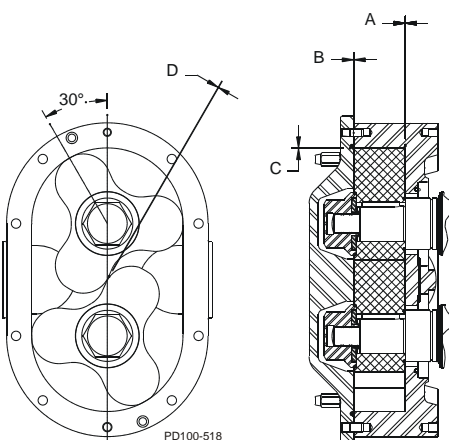

Figure 54 - Measure Clearance
9. Measure the rotor backface clearance (Figure 54, item A) through the port or from the front. For optimum pump operation, the backface clearance for both rotors must be the same and must be ± 0.0005 " of the value found in Table 8, "Standard Rotor Clearance," on page 39.
10. Check the rotor front face clearance (Figure 54, item B).
11. Check the rotor to body clearance (Figure 54, item C).